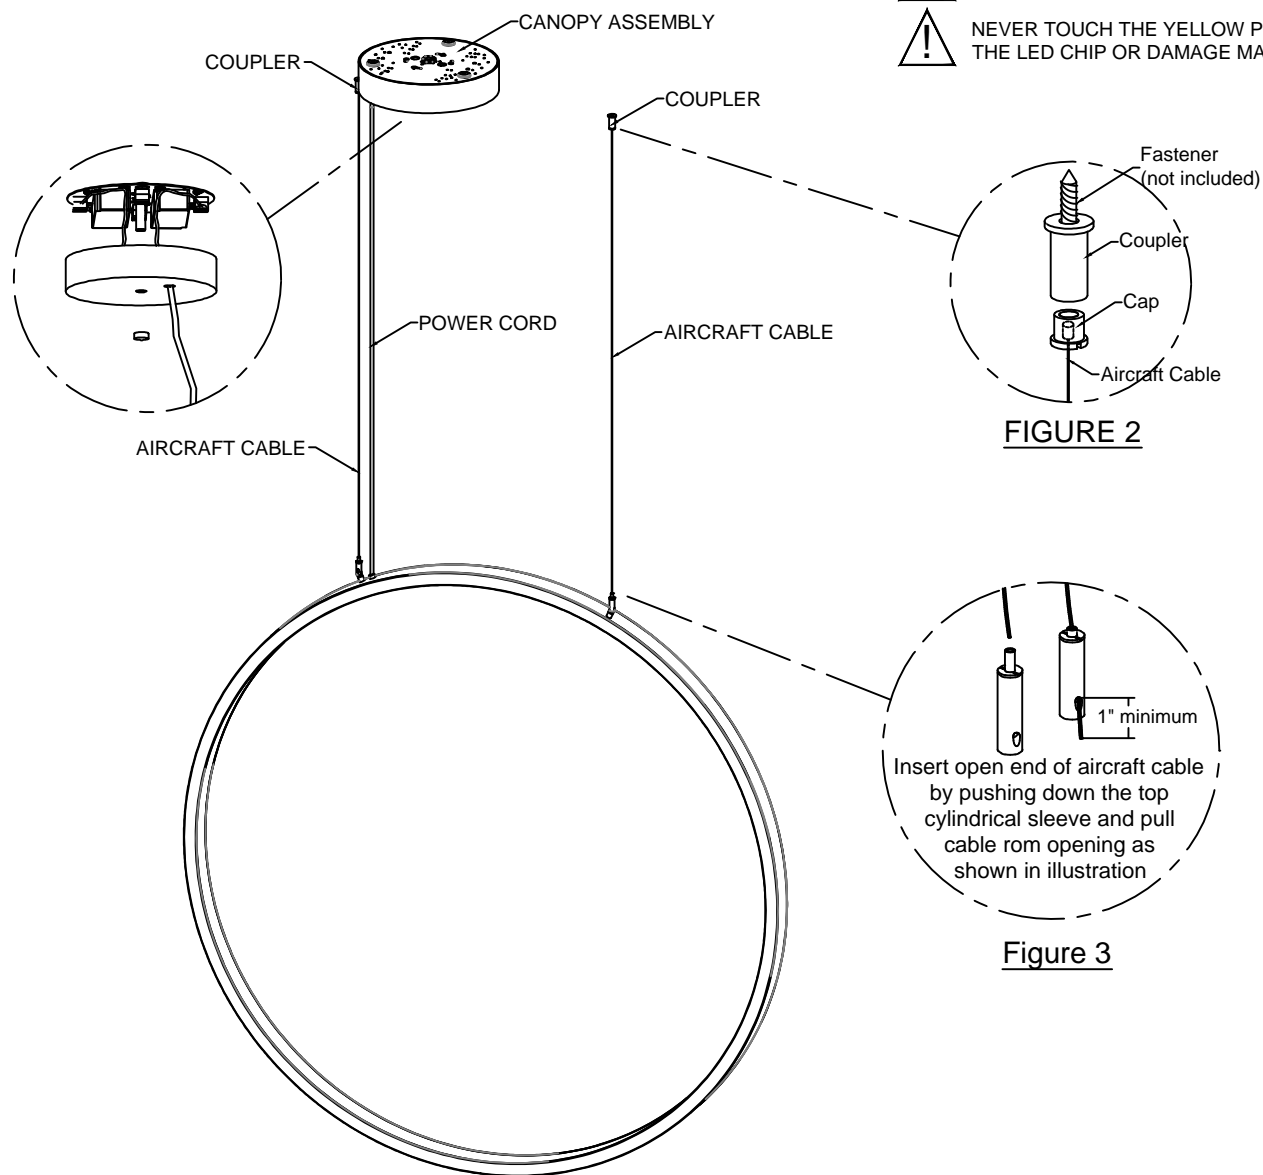

FIGURE 4
1. Mount the couplers to the ceiling using appropriate fasteners "NOT SUPPLIED" according to the structure of ceiling - see FIGURE 4